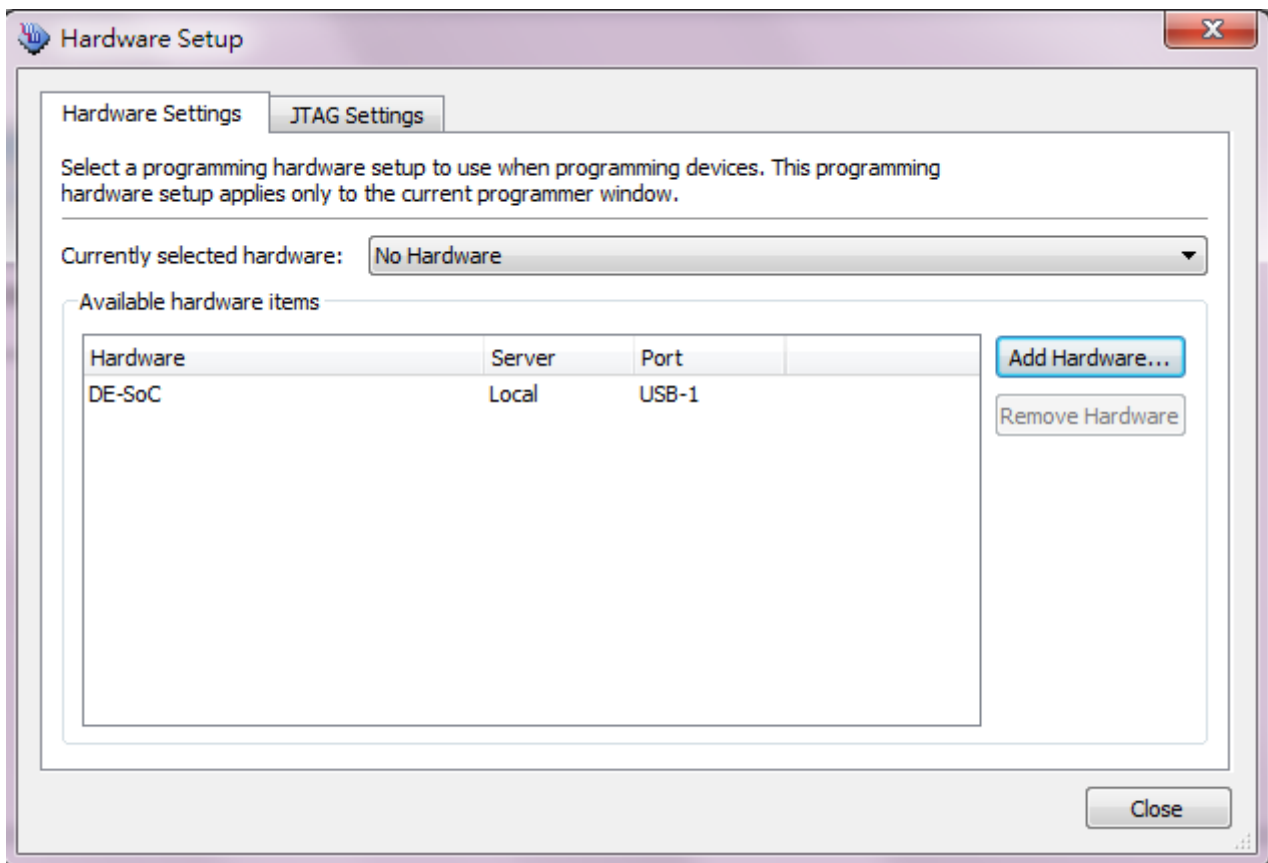

Figure 4-4 Hardware Setting
3. If it is not already turned on, turn on the DE1-SoC [USB-1] option under currently selected hardware. See Figure 4-4.